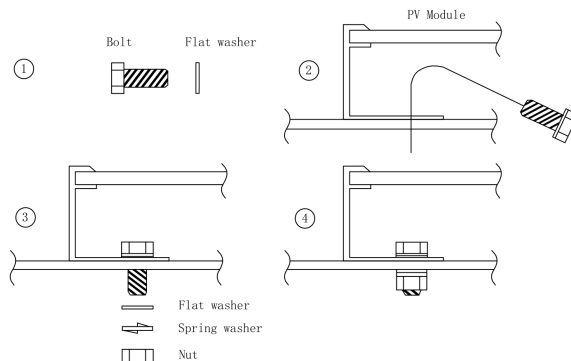

Figure 15: Securing the SPVxxx-R60DWMG-2M2C01 / SPVxxx-R60DBMG-2M2C01 modules by bolts to a rail
3. Secure each module to the rails by adding a flat washer under the bolt head and a flat and spring washer under the nut (See *Figure 15*).